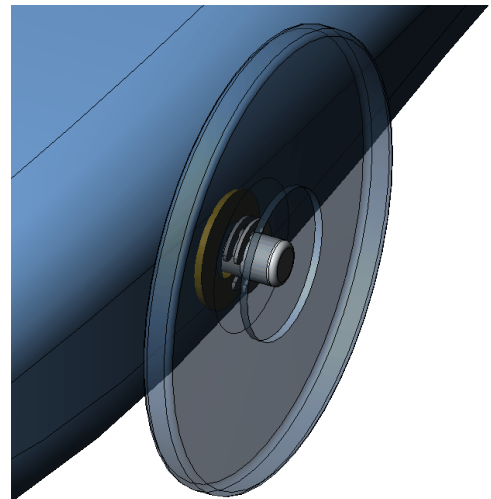

Fig. 7
Step 16. Browse and place **FRONT WHEEL** on Front Axle, **Fig. 7**. Release when pointer changes to indicate a Concentric mate